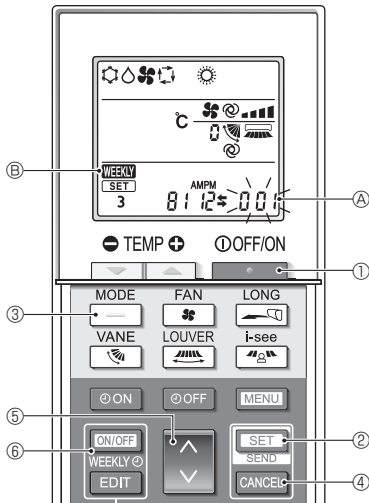

Fig. 6-7
- Press the **MENU** button ②.
6.8.8. How to disable Auto mode operation (Fig. 6-7)
1. Press the **OFF/ON** button ① to stop the air conditioner.
- If the weekly timer is enabled, press the **ON/OFF WEEKLY** button ⑥ to disable the timer. (**WEEKLY** ⑥ disappears.)
2. Press the **SET** button ② for 5 seconds.
- The unit enters the function setting mode. (The group model setting number ① blinks.)
3. Press the **UP/DOWN** button ④.
4. Completing the settings (Fig. 6-7)
- Press the **SET** button ② for 5 seconds.